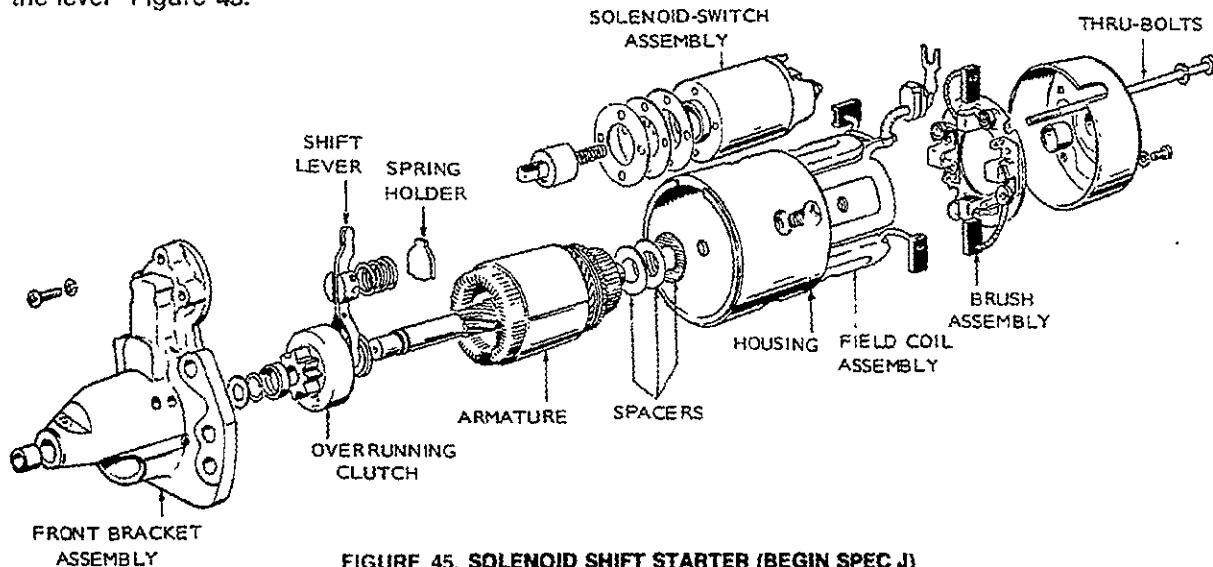

FIGURE 45. SOLENOID SHIFT STARTER (BEGIN SPEC J)
4. Solenoid Starter Only: The armature can now be removed from the front bracket. Be careful not to miss the small steel washer used in the end of the armature shaft. Remove the shift lever at the same time the armature is removed. The spring holder, lever springs and retainer can be removed prior to the lever Figure 45.